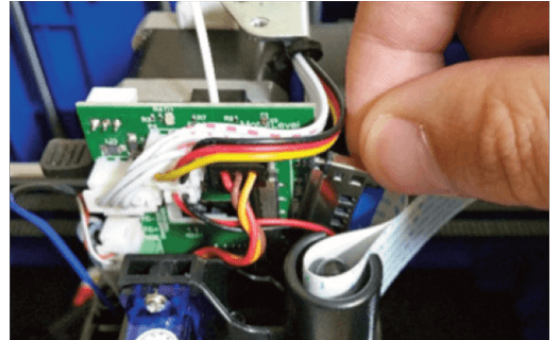

Figure 8: Removal of ribbon cable from extruder housing.
- d. Loop the shielded circuit cable through the plastic guide bracket. Refer Figure 8.